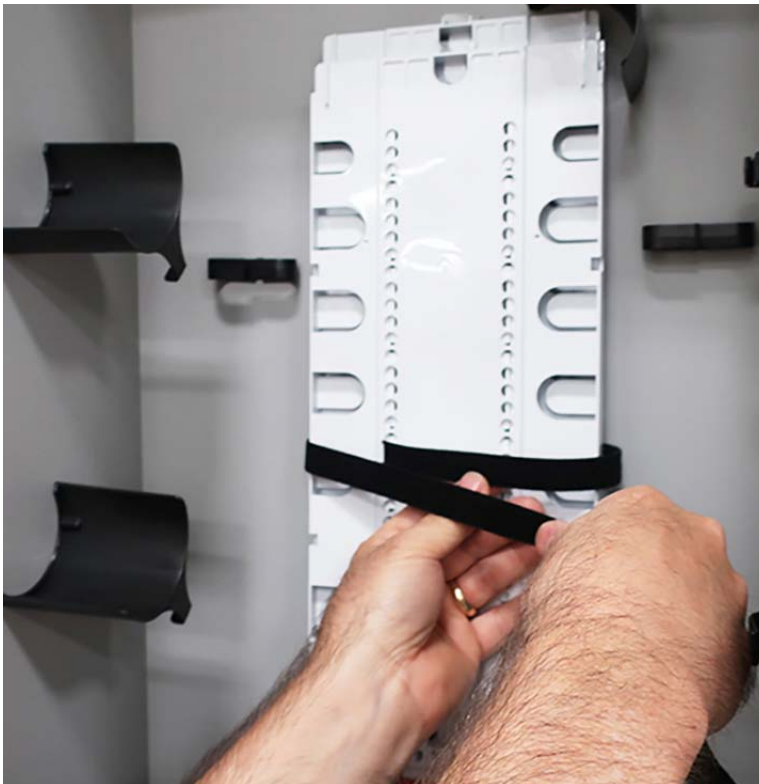

Figure 14. Inserting the Top of the Splice Tray in the Splice Tray Bracket
4. When done installing trays in a particular tray holder bracket, lift the trays up together and fasten them in place using the hook-and-loop strap. Refer to Figure 14.